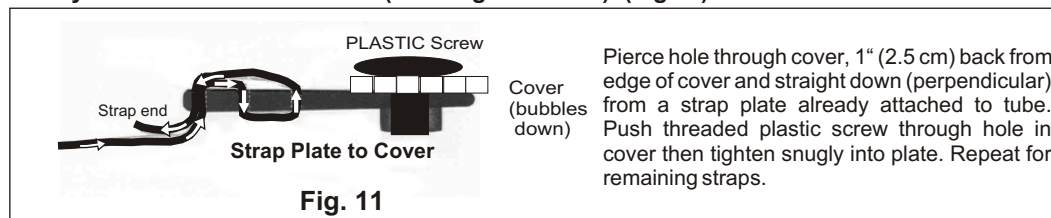

Fig. 11
- Choose either Fig. 11 OR Fig. 12 - the appropriate instructions below for your pool shape. If you have determined a mid-pool or off-center placement, it will be easier if you move the cover away from the pool and fold it (bubbles in) on a flat surface.
For Systems Placed at Pool End (Rectangular Pools) (Fig.11)